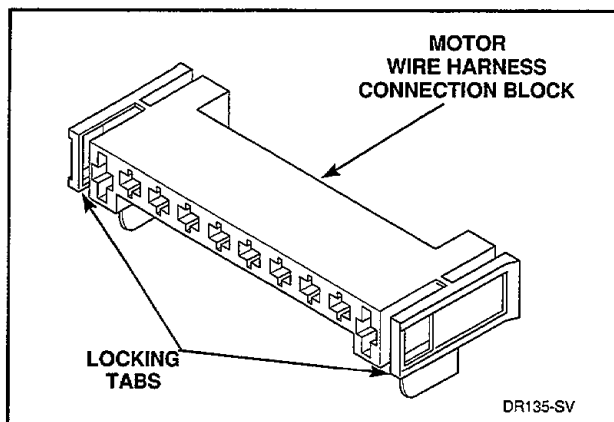

Figure 29
- g. Disengage motor wire harness connection block from motor switch by pressing in on the movable locking tabs (located on each end of the connection block) and pulling away from motor, *Figure 29*.
- (1) Disengage motor wire harness connection block from the motor by pressing in on the movable locking tabs (located on each side of the connection block) and pulling away from motor, *Figure 29*.